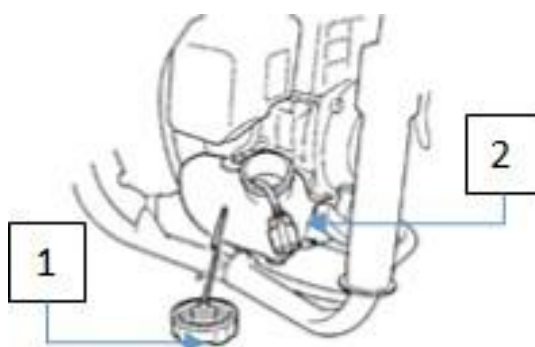

Fig.12
**6.4. Fuel filter. (Fig.12)**